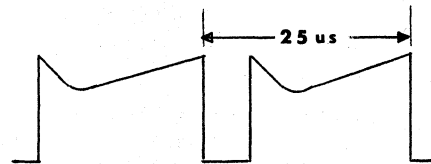

Figure 5-3
6. Apply nominal input power and turn A2R10 slowly clockwise. The output voltage should increase and the current waveform on oscilloscope should appear as in pattern of Figure 5-3.